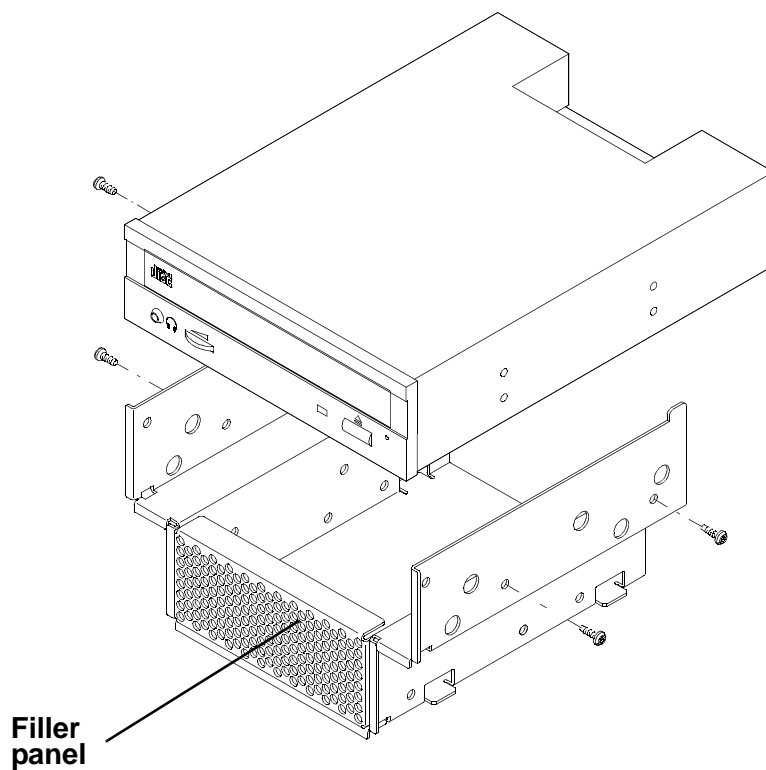
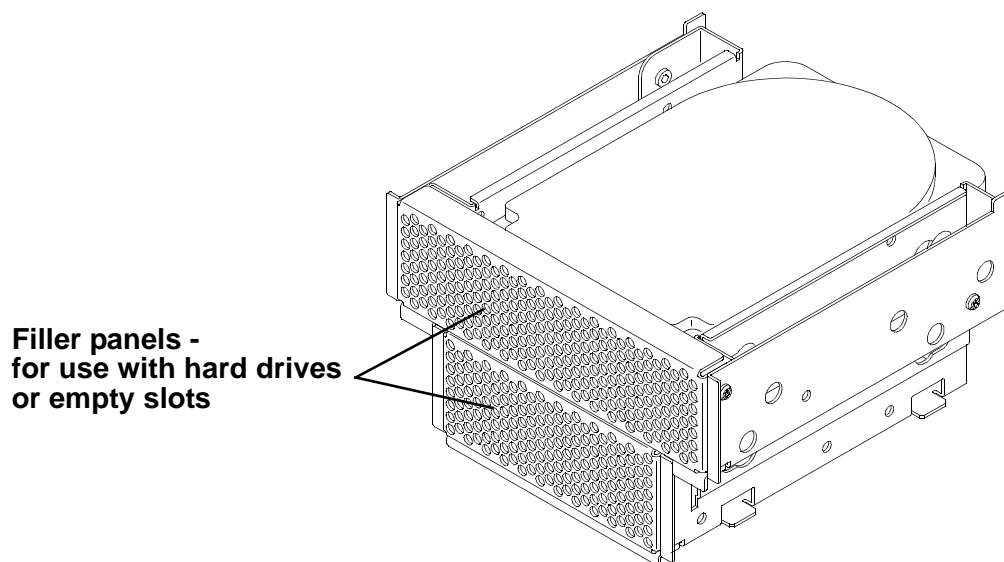

Figure 7-3 **Device Installation in the Disk Carrier**
Figure 7-6 **Disk Carrier and Filler Panels**
- 7** Place the device in the carrier and align the screw holes. See Figure 7-3 though Figure 7-6.